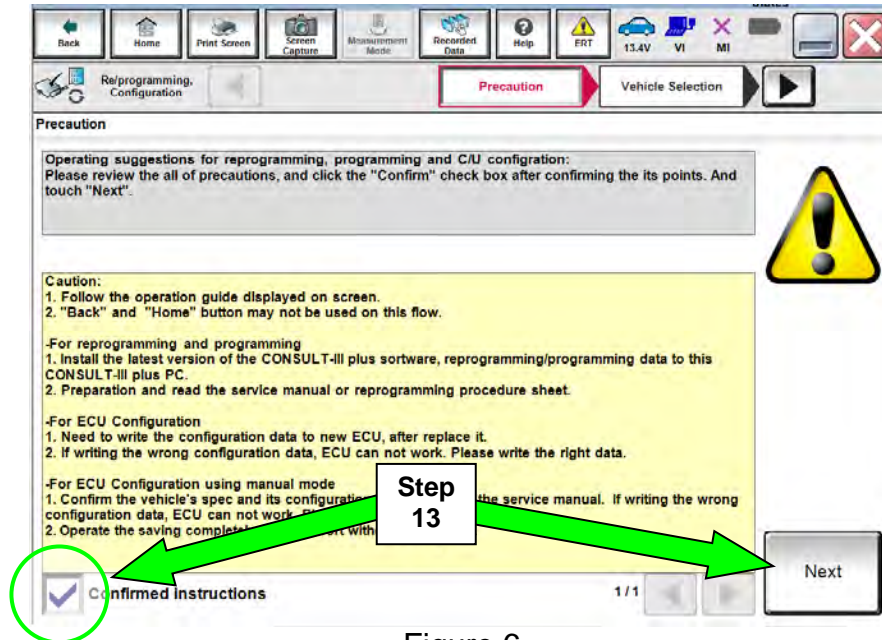

Figure 6
13. Read the precautions (Figure 6) and then select **Next**.